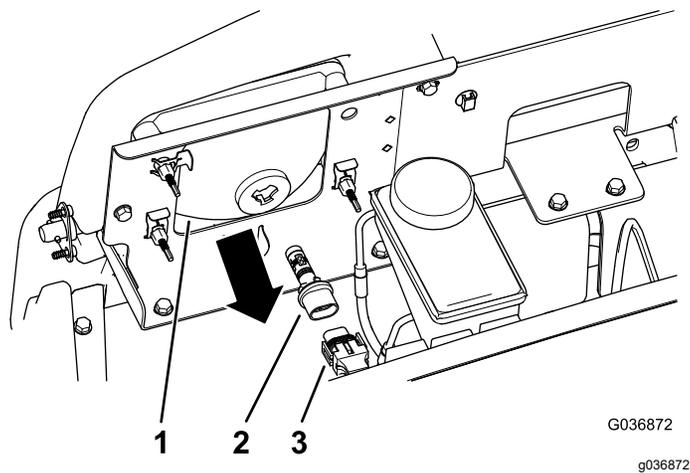

Figure 54
3. Disconnect the electrical connector for the harness from the connector of the lamp assembly at the back of the headlight housing (Figure 54).
4. Rotate the lamp assembly 1/4 turn counterclockwise and moving it rearward, out of the headlight housing (Figure 54).
5. Insert the new lamp assembly and headlight housing and align the tabs in the lamp assembly with the slots in the headlight housing (Figure 54).
6. Secure lamp assembly by turning it 1/4 turn clockwise (Figure 54).
7. Connect the electrical connector for the harness to the connector of the new lamp assembly (Figure 54).